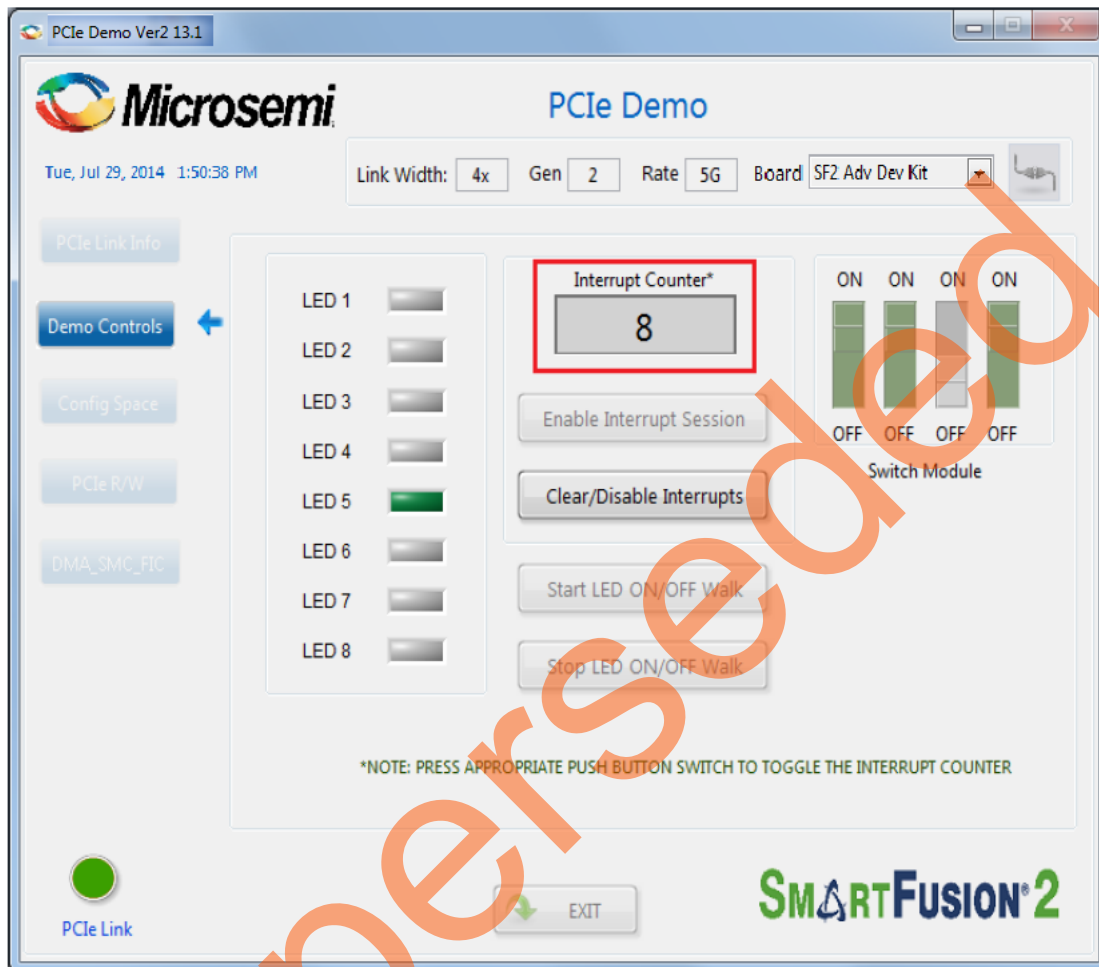

Figure 21 • Interrupt Counter Field in PCIe_Demo Application
11. Press the push button, SW3 on the SmartFusion2 Advanced Development Kit board. Observe the interrupt count on the **Interrupt Counter** field in the PCIe_Demo application. Figure 21 shows the **Interrupt Counter** field in PCIe_Demo application.